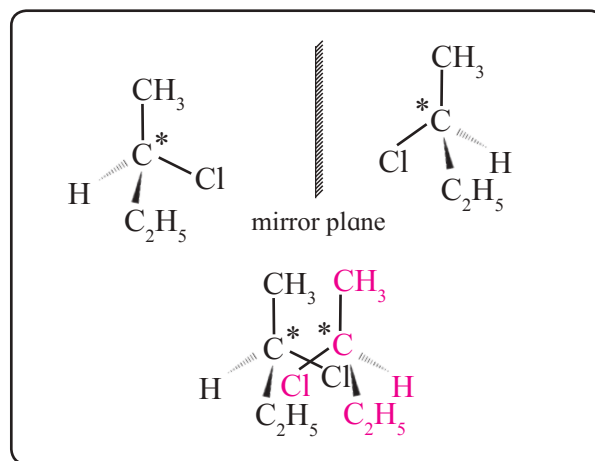

Fig. 10.1 : Nonsuperimposable mirror images
When a molecule contains one chiral atom, it acquires a unique property. Such a molecule can not superimpose perfectly on its mirror image. It is called **chiral molecule**. A chiral molecule and its mirror image are not identical (see Fig. 10.1).
10.5.4 Enantiomers : The optical isomers which are non-superimposable mirror image of each other are called **enantiomers** or **enantiomorphs** or **optical antipodes**. For example, 2 - chlorobutane exists as a pair of enantiomers (Fig. 10.1).